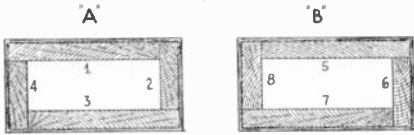

Fig. 2
The assembling of the frame is best accomplished by first constructing a shallow box (sides about 2 inches high), whose inside dimensions are slightly larger than 5 inches by 8 inches. The finished frame is to be 5 inches by 8 inches. Starting at corner (A) of the box (Fig. 2), lay in the steel strips 1, 2, 3 and 4 as shown. On the second layer start at corner (B) of the box and lay in strips 5, 6, 7, and 8. On the third layer start again at corner (A). In this way build up the transformer frame until its height, when compressed, is equal to the width of the strips, or about 1 1/4 inches. This will require about 175 long strips and the same number of short strips. The frame should